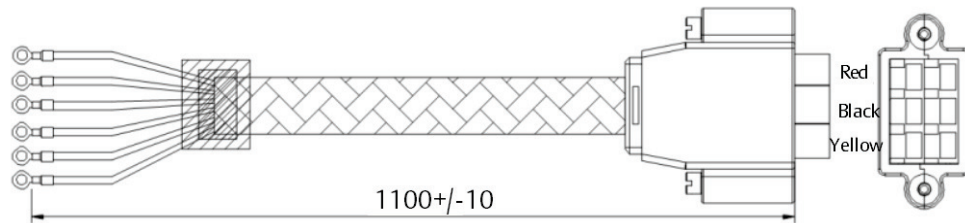

Figure 3-8 I/O cable A (UPS*2)
1. Take out the cable shown in Figure 3-8 from the POD package.